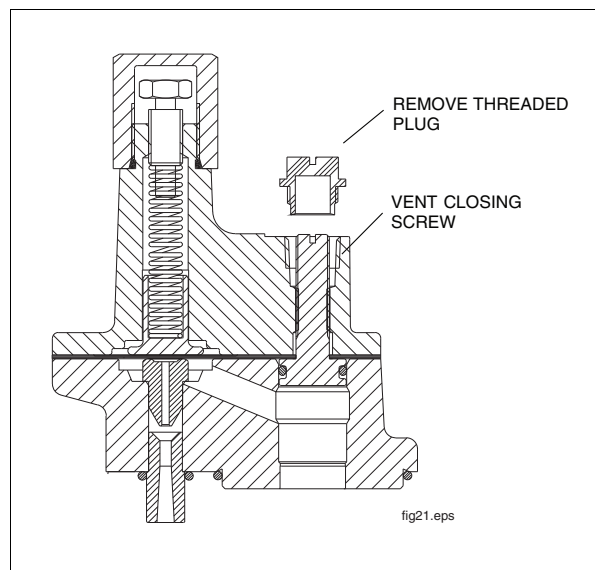

Figure 26. Closing the check valve
2. Remove protective plug and close pump check valve by turning the vent closing screw clockwise as far down as possible (see Figure 26).
1. Remove the protective plug and close pump check valve by turning the vent closing screw (see Figure 26) as far down as possible. Remove the 1/4" NPT tank test port plug and attach tank testing equipment. Apply tank test pressure at tank test port.